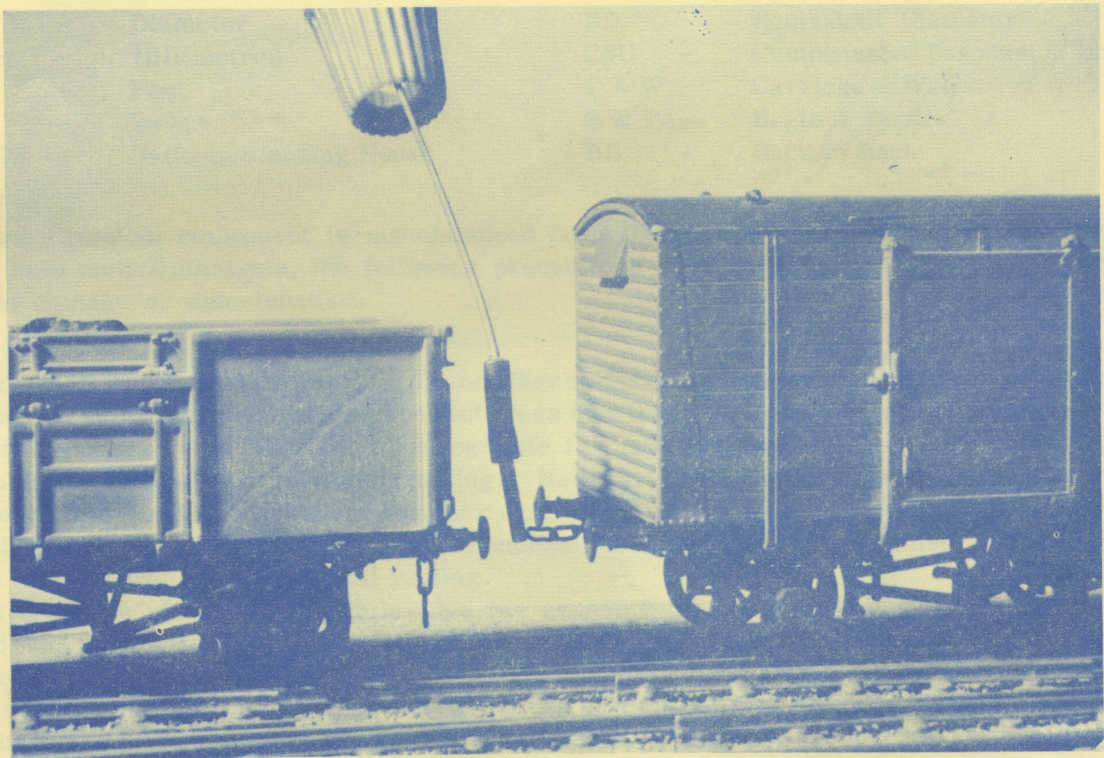

Fig. 18. Coupling with the magnetic shunters' pole.
The shunters' pole is always held vertically downward during operations. (Fig. 18).
- * Lower the magnet alongside the appropriate link and allow the link to attach itself to the end of the magnet. (Note that in Fig. 18 the link is shown on the side of the magnet. This should be avoided as the coupling operation is much more difficult in this position).